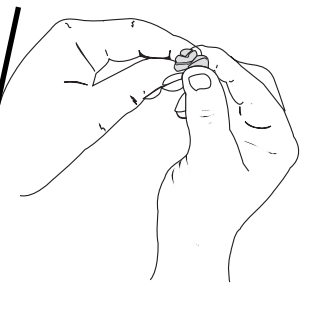

Fig. 30
5. Squeeze the filter to spread and remove excess oil (Fig. 30).